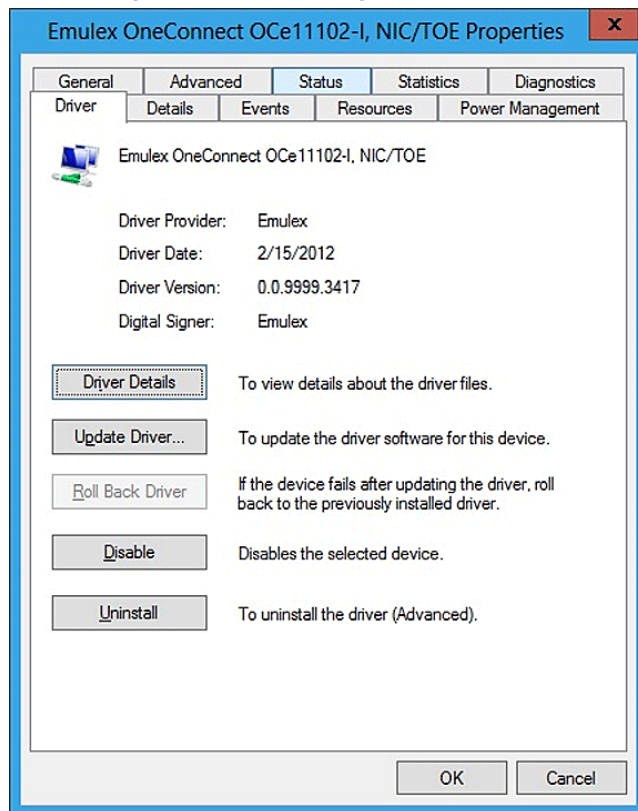

Figure 3-5 Emulex NIC/TOE Driver Properties page
3. Open the **Network Adapters** item, find the Emulex device and right-click. Select **Properties** from the context-menu. The Properties dialog box opens. See Figure 3-5.
3. Open the **Network Adapters** item, click the Emulex device and right-click. Select **Properties** from the context-menu. The Properties dialog box opens showing the Driver page. See Figure 3-5 on page 72.